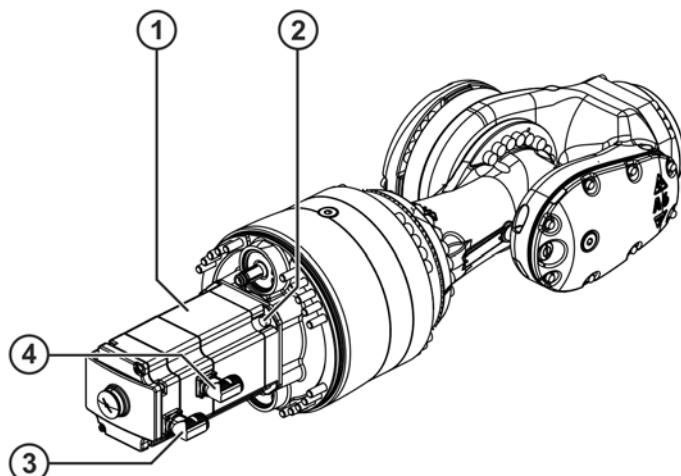

Fig. 11-17: Removing motor A6
1. Remove 4 Allen screws (**>>>** Fig. 11-17).